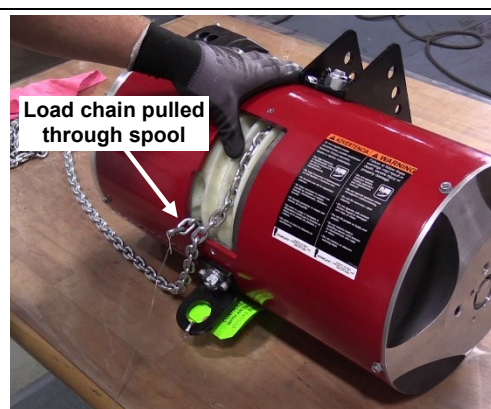

Figure 4-29
Step 14. Pull the wire and chain through the spool until 6 or 7 links are through. Remove the wire from the end of the chain. (See Figure 4-29)